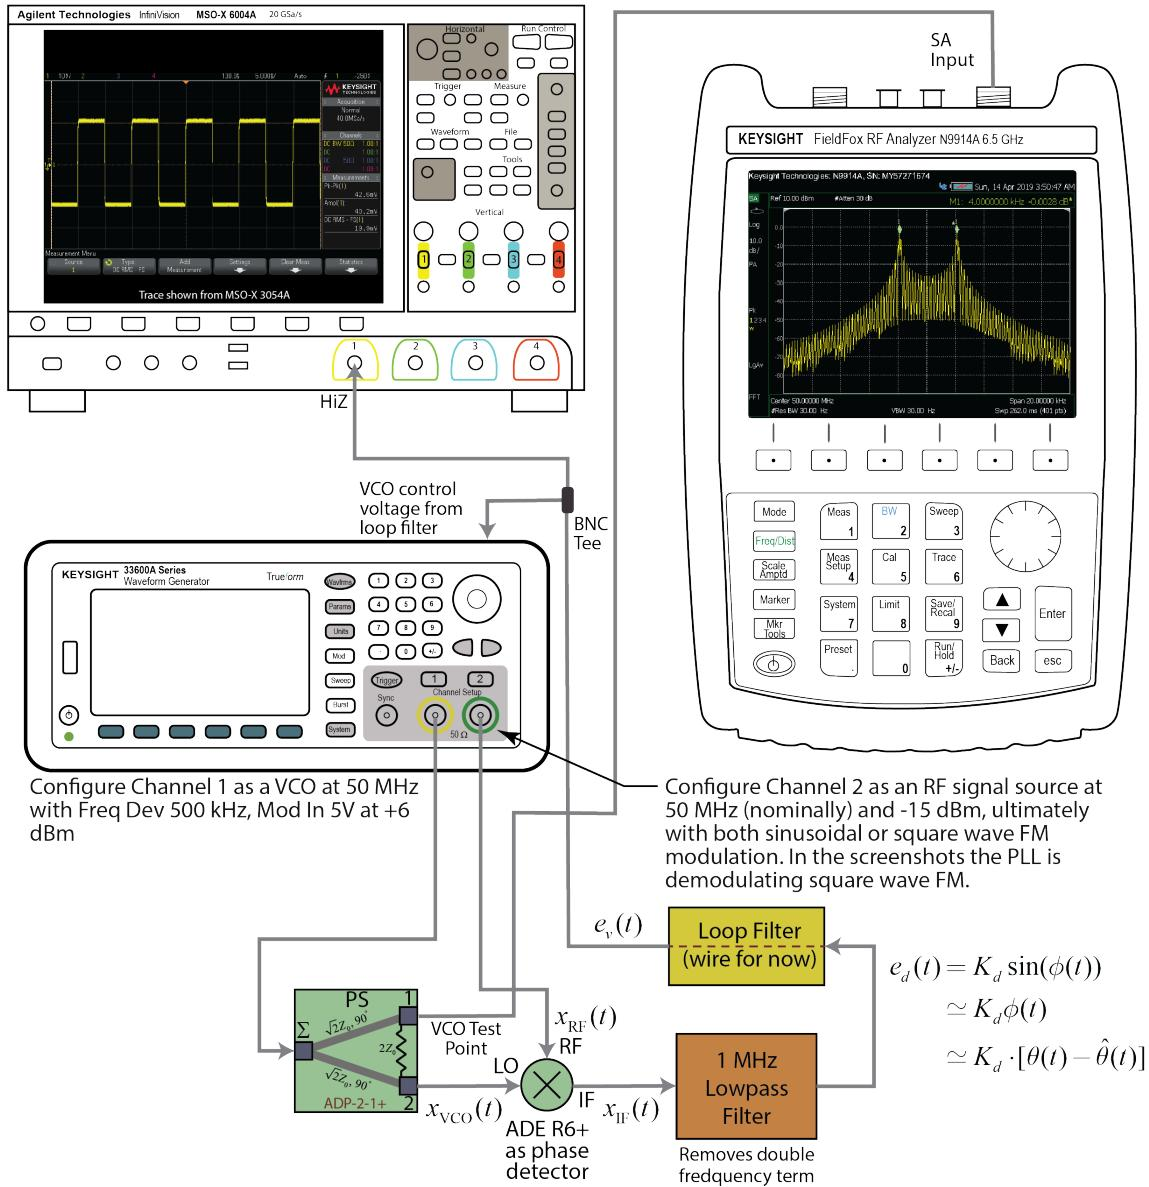
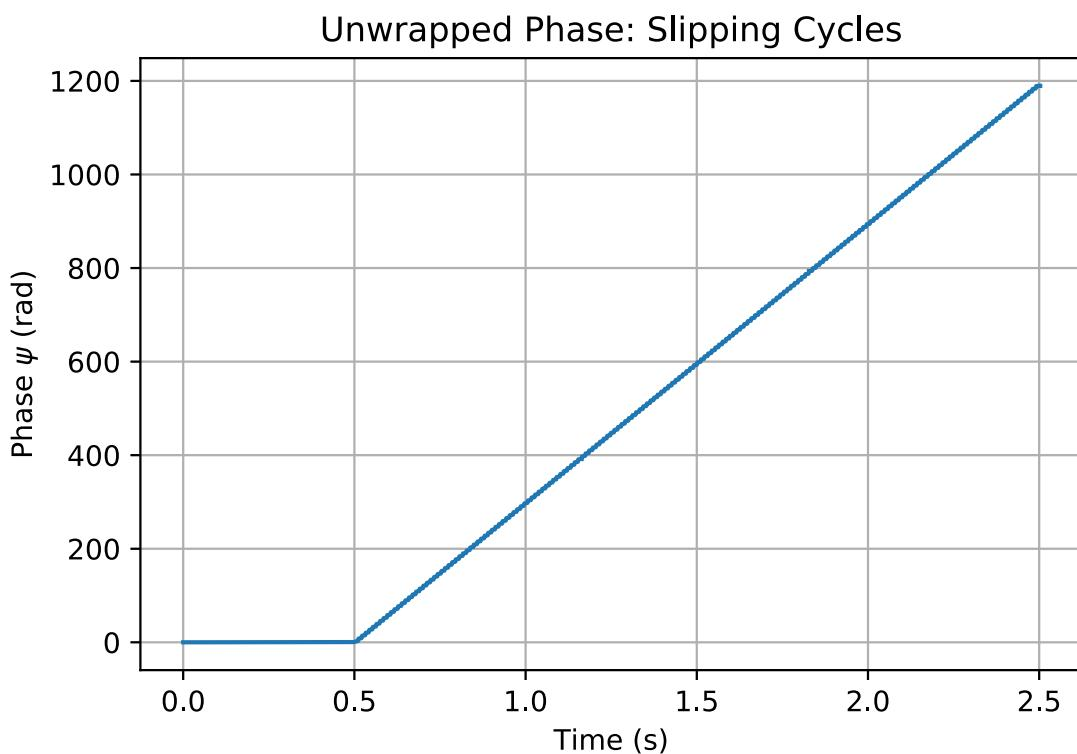

Figure 16: Instrument configuration for building a first-order PLL using one of the mixers on the RF board.
Figure 18: Python first-order PLL phase error output showing cycle slipping when frequency offset exceeds the lock range (of 4500 Hz in this case).
Consider the test setup shown in Figure 16 below:
1. Configure the test set-up of Figure 16. In particular Channel 1 is now used as a VCO centered at 50 MHz and +6 dBm power with *Freq Dev* of 500 kHz and external *Mod In* at +5V. **Note:** You earlier characterized Channel 1 as a VCO with a *Freq Dev* of 5 MHz. With the deviation reduced to 500 kHz the sensitivity K_v in V/Hz will be reduced by a factor of 10 (why?). Channel 2 is configured initially as an unmodulated carrier at nominally 50 MHz and -15 dBm power level. Note that the loop filter in this case is just a wire from the phase detector directly to the VCO input (back panel of the 33600). Initially do not connect the phase detector output to the VCO input, but do probe with the scope to see the difference frequency at the phase detector output. When the input signal and VCO are slightly offset in frequency, you observe
4. Now apply FM modulation by properly configuring the modulation options for Channel 2 of the 33600. Note the screen shots in Figure 16 are for square wave modulation with the scope showing the VCO control voltage the spectrum analyzer showing the VCO spectrum as it is phase locked to the input RF signal. On Channel 2 set *Freq Dev* to 2 kHz, waveform to sine at $f_m = 100$ Hz. Assuming the closed-loop bandwidth is greater than 100 Hz (it should be around 4500 Hz for the setting discussed in Figure 16), the PLL should be tracking the FM input signal, that is the VCO control voltage (phase detector output voltage) will follow the modulation. Verify this on the scope. This waveform is the demodulated FM signal. Compare your results with the Python simulation shown in Figure 18. If the modulation is switched to a square wave you should see the loop properly tracking the modulation, but should be able to observe the rise time/fall time is controlled by the finite loop bandwidth.